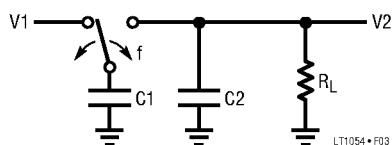

Figure 3. Switched-Capacitor Building Block
In Figure 3 when the switch is in the left position, capacitor C1 will charge to voltage V1. The total charge on C1 will be $q_1 = C_1 V_1$. The switch then moves to the right, discharging C1 to voltage V2. After this discharge time the charge on C1 is $q_2 = C_1 V_2$. Note that charge has been transferred from the source V1 to the output V2. The amount of charge transferred is:
*SEE FIGURE 3